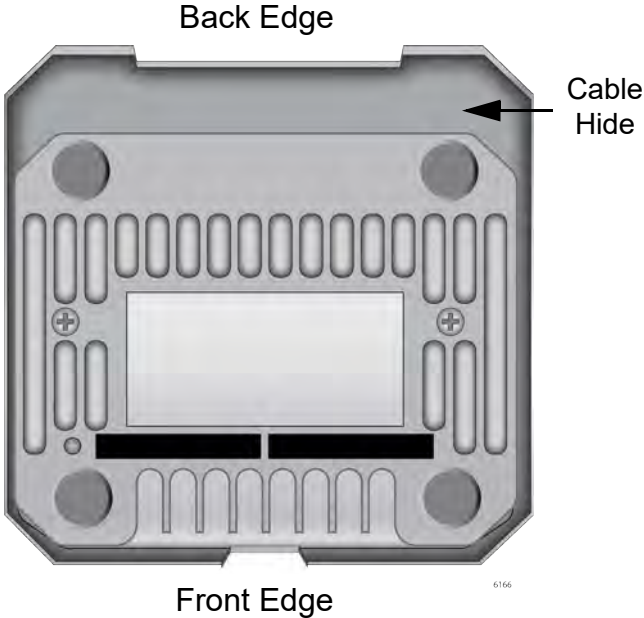

Figure 2. Access Point Bottom View
The bottom view is illustrated in Figure 2.
- Cable Hide** The top cover of the access point is larger than the access point chassis to create space on the back for cable connectors and cables shown in Figure 2 on page 23.